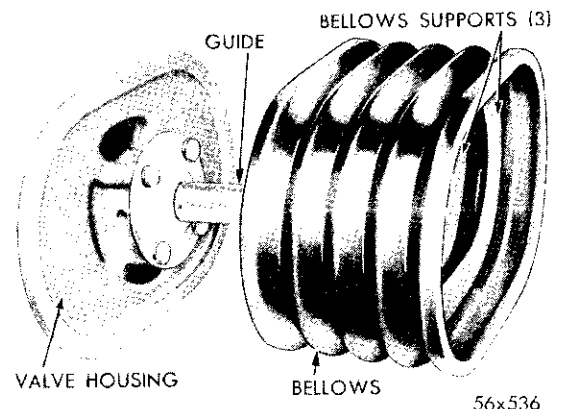
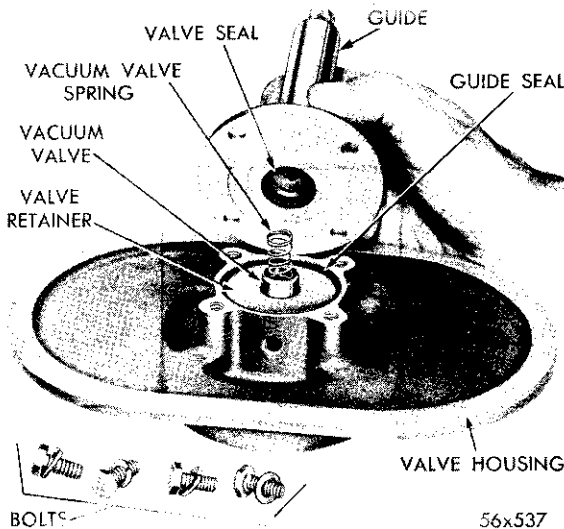

Fig. 30—Removing the Bellows
Fig. 31—Removing or Installing the Guide
(18) Place the valve housing end down on the bench. Remove the bellows from the valve by peeling back the outer lip of the bellows (Fig. 30).
(19) Lift the bellows up and away from the valve. If a new bellows is to be installed, remove the three bellows supports.
(20) Remove bolts and lockwashers that attach the guide to the valve body. Lift off the guide to expose the vacuum valve, valve spring and seats (Fig. 31).